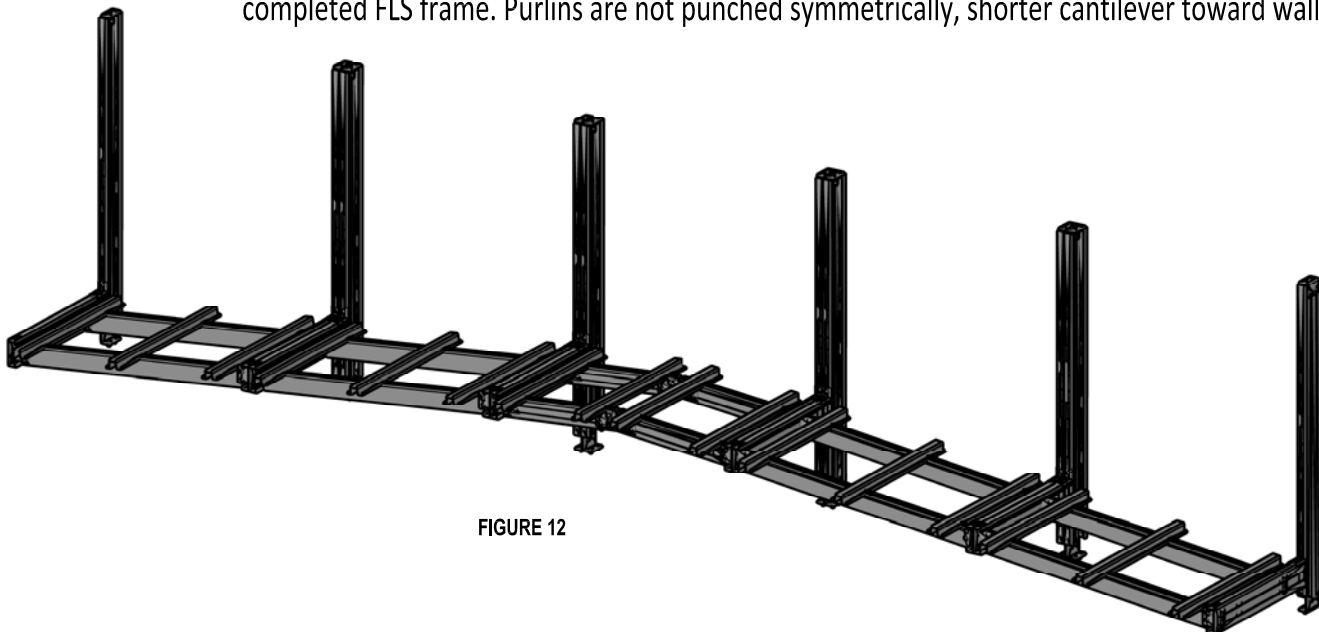

FIGURE 12
- b. **Hat Purlins** - Attach Hat Purlins (S-005-GV) to the Gable Channels using $\frac{1}{4}$ " bolts/nuts. If necessary, use a channel lock pliers to squeeze the Hat Purlins to allow the holes to line up. See **Figure 12** for a completed FLS frame. Purlins are not punched symmetrically, shorter cantilever toward wall.